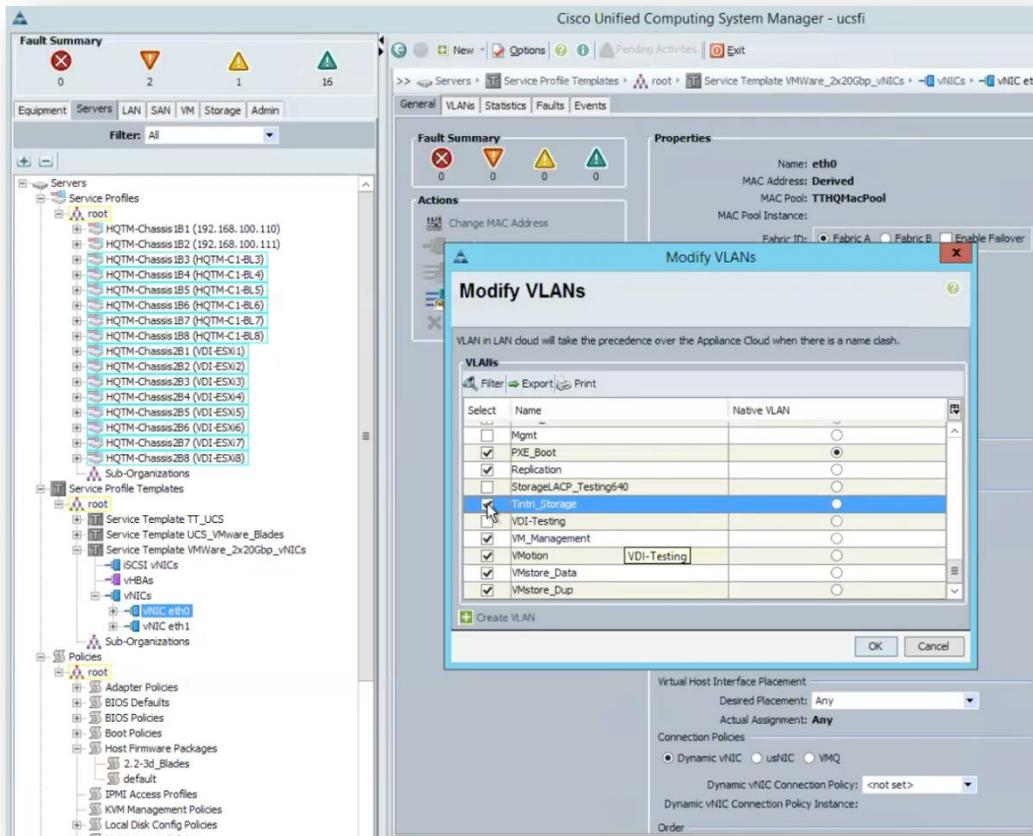

Figure 13 – Adding the Tintri VLAN to a UCS Service Profile
2. Select "Modify VLANS" from the Actions menu and select the checkbox for the VLAN you created above, as shown in Figure 13